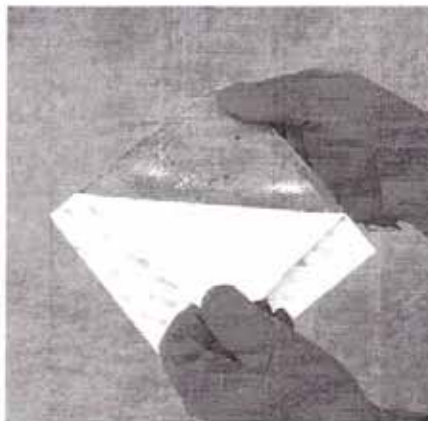

Figure 4: Remove paper backing
3. Once the temperature is above 194 °F (90 °C), the material will soften and become very flexible. Remove the paper backing from the material (Figure 4).